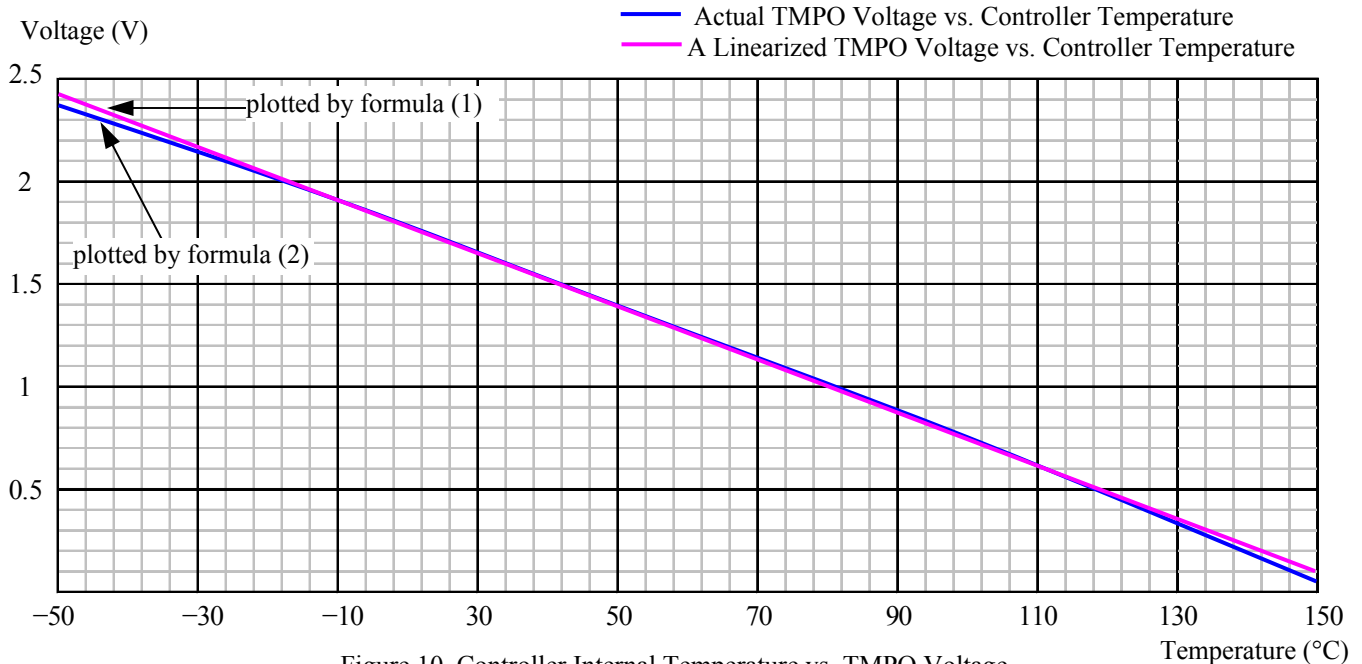

Figure 10. Controller Internal Temperature vs. TMPO Voltage
Within the most commonly used temperature range of between 0°C to 100°C, the maximum error occurs at about 1.5V, at which the temperature error between the calculated data by using the formula (1) and the approximated data obtained by using the linear equation (2) is about 0.4°C, with the linear data being a little lower. The curves of the 2 sets of the data are plotted in Figure 10.